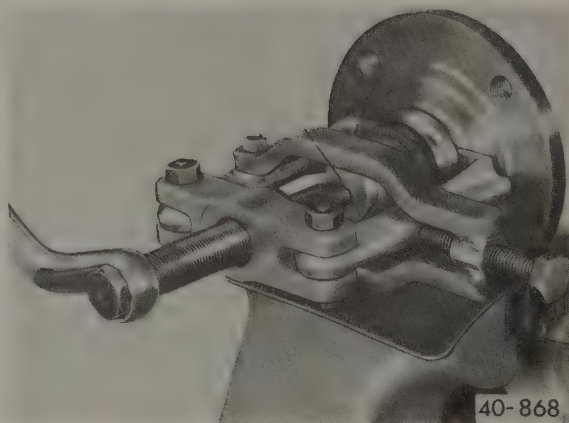

Fig. 5-25. Wheel bearing inner race being removed from hub. Clamping-type puller, as shown, is highly recommended.
3. Remove the inner bearing race from the hub using a bearing puller as shown in Fig. 5-25.